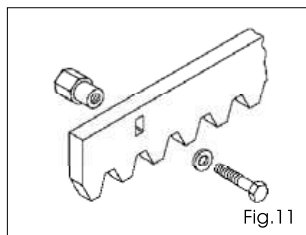

Fig. 11
5.4.1. Steel rack to weld (Fig. 11)